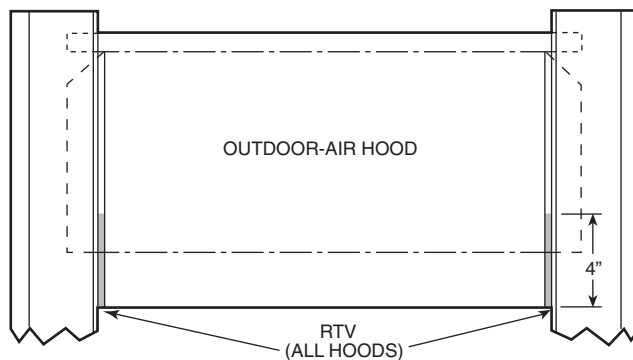

Fig. 29 — Outdoor-Air and Economizer Hood
- Apply a bead of RTV or similar sealant to corner of economizer hood at pivot points to prevent water leaks. See Fig. 29.
- Apply a bead of RTV or similar sealant to corner of each hood at pivot points to prevent water leaks. See Fig. 29.
- Apply a bead of RTV or similar sealant to corners of economizer hoods at pivot points to prevent water leaks. See Fig. 29.
5. Apply a bead of RTV or similar sealant to corner of economizer hood at pivot points to prevent water leaks. (See Fig. 29.)